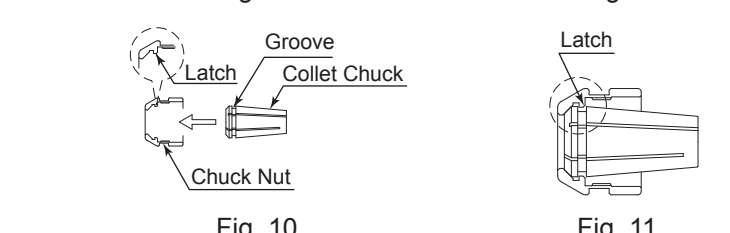

Fig. 9
- The collet chuck and chuck nut are secured by a groove in the collet chuck and a flange in the chuck nut. To remove the collet chuck hold the chuck nut in one hand and push diagonally down on the collet chuck. The collet chuck should be released (Fig. 9).
- To install the collet chuck, hold the collet chuck at a slight angle, and insert it into the chuck nut (Fig. 10). Press the collet chuck in the chuck nut by positioning the collet chuck in the chuck nut and pressing down on flat surface (Fig. 9). Be sure to fully engage the latch inside the chuck nut into the groove on the collet chucks outer circumference area (Fig. 11).